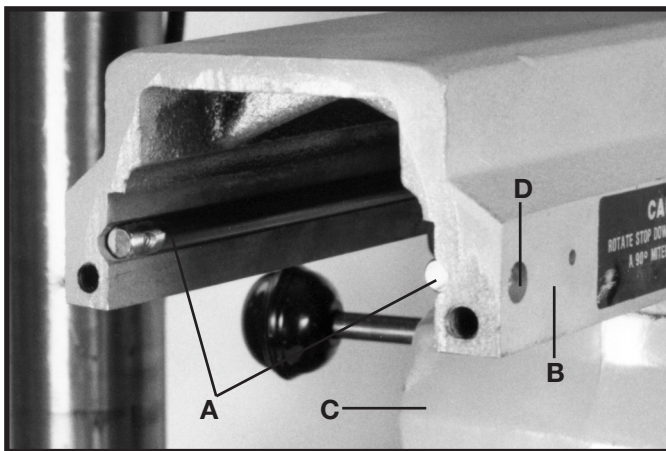

Fig. 41
After a period of heavy use the two track rods (A) Fig. 41, may in time show signs of wear especially where the cuttinghead is used most often in the track arm. If this happens you will have an uneven bearing surface for the cuttinghead bearings.
2. Remove rear plate from track arm (B) Fig. 41.
3. Remove the cuttinghead assembly (C) Fig. 41, from the track arm (B).
4. Remove four screws (D) Fig. 41, one of which is shown, and rotate track rods (A) 180°.
5. Replace track rods (A) Fig. 41, inside track arm (B) and fasten with four screws (D).